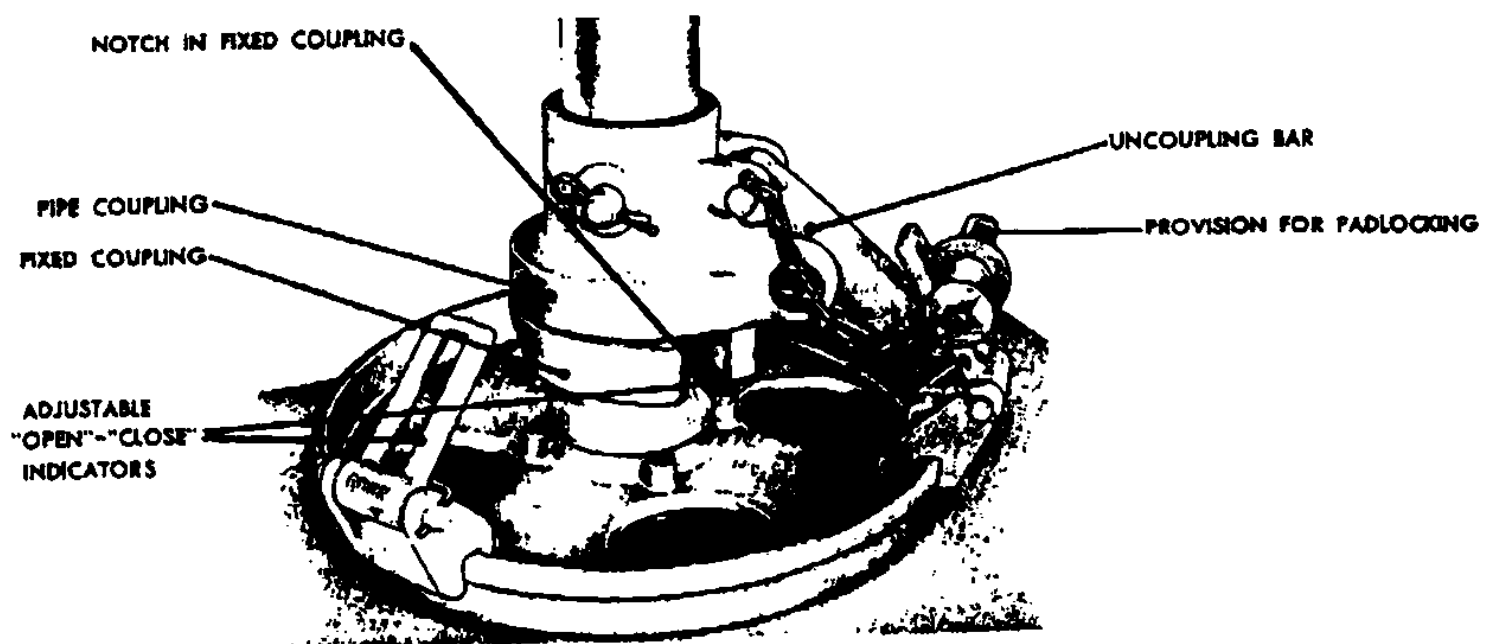

Fig. 10. Motor mechanism disengaged;
10. Uncouple the vertical operating pipe from the motor operator by lifting the uncoupling bar on the pipe coupling. Use the chained pin to hold the uncoupling bar in the CLOSED position. See Fig. 10.